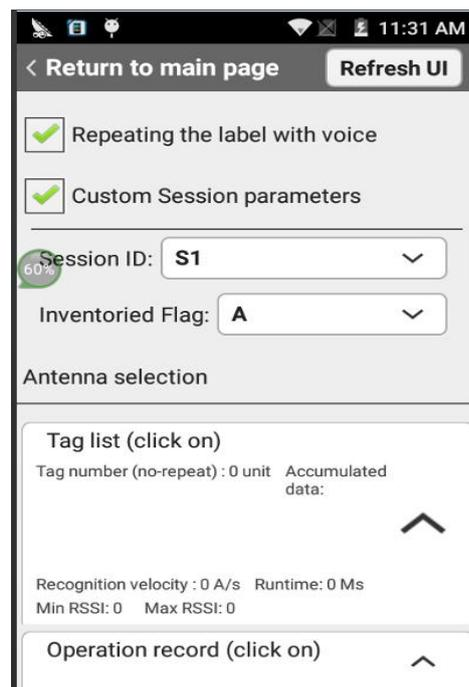

Figure 2.0
1.1 Choose the option ‘Inventory tag real-time mode’, enable or disable function ‘Repeating the label with voice’ or ‘Custom session parameters’ according to your application scenario requirements as figure 2.0.